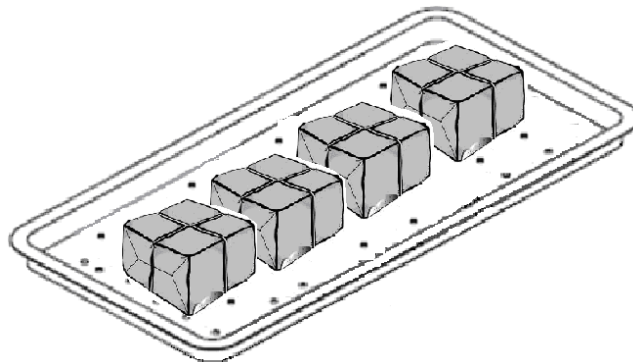

Figure 28
**Warning:** To sterilize absorbent cotton or woolen, please wrap it with a thin towel, covering cloth, linen, or sterilizing pouch to avoid piping clog according to Figure 28.